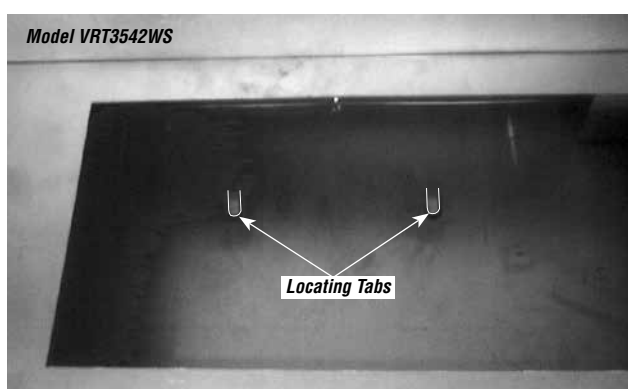
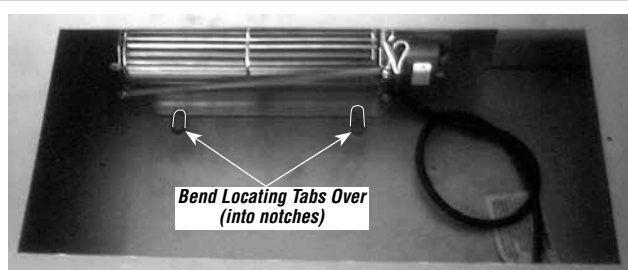

Figure 21 - VRT3542WS Shown
Figure 22 - VRT3542WS Shown
Step 4. Locate the tabs shown in **Figure 21**. Position the blower assembly so that the tabs (located on the cabinet base) are seated in the notches of the blower bracket. Bend the tabs over to secure the blower assembly (see **Figure 22**).